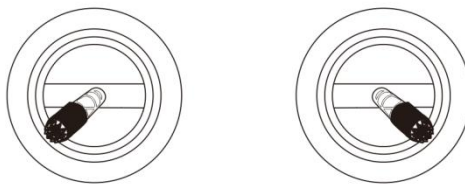

Figure 2-3-2 Lock
- Perform the operation shown in Figure 2-3-2 to lock.